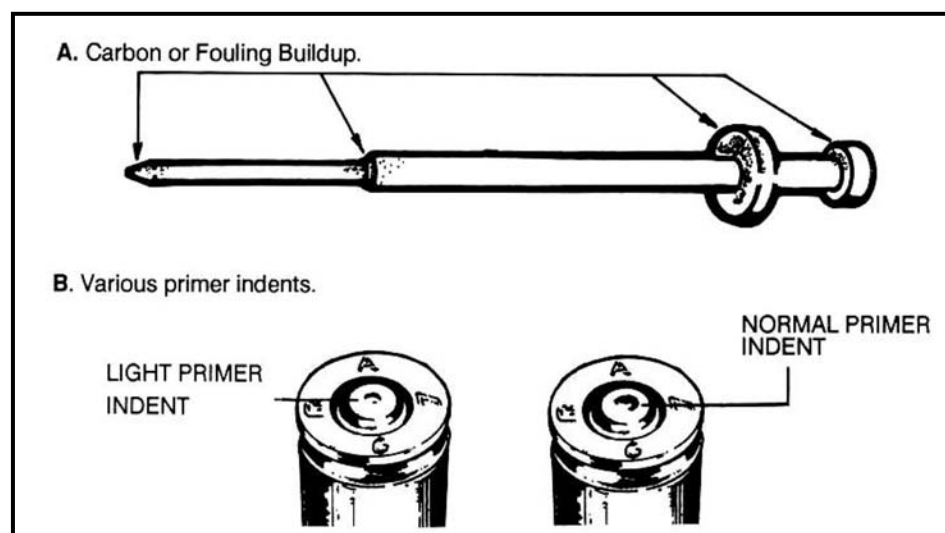

Figure 3-2. Failure to fire.
(1) **Probable Causes.** Excessive carbon buildup on the firing pin (Figure 3-2, A) is often the cause, because the full forward travel of the firing pin is restricted. A defective or worn firing pin can give the same results. Inspection of the ammunition could reveal a shallow indentation or no mark on the primer, indicating a firing pin malfunction (Figure 3-2, B). Cartridges that show a normal indentation on the primer, but did not fire indicate faulty ammunition.